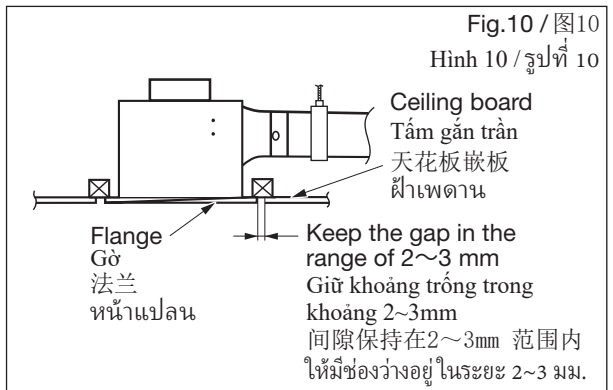

Fig.10 / 图10
- ⑨ Install ceiling board, keep the gap of flange and ceiling board in the range of 2~3 mm. (Fig.10)
安装天花板嵌板, 使法兰与天花板嵌板的间隙保持在 2~3mm 范围内 (图10)。